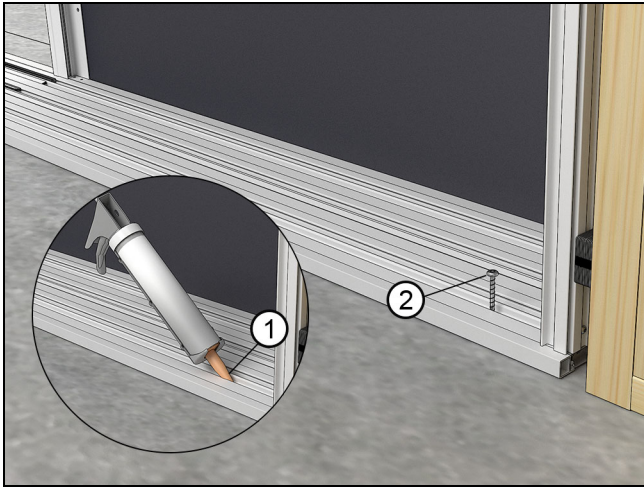

Figure 61 Fastening pocket performance sill
8. Position the frame to the correct depth inject sealant and install an anchor screw in the pocket side sill. See Figure 61.